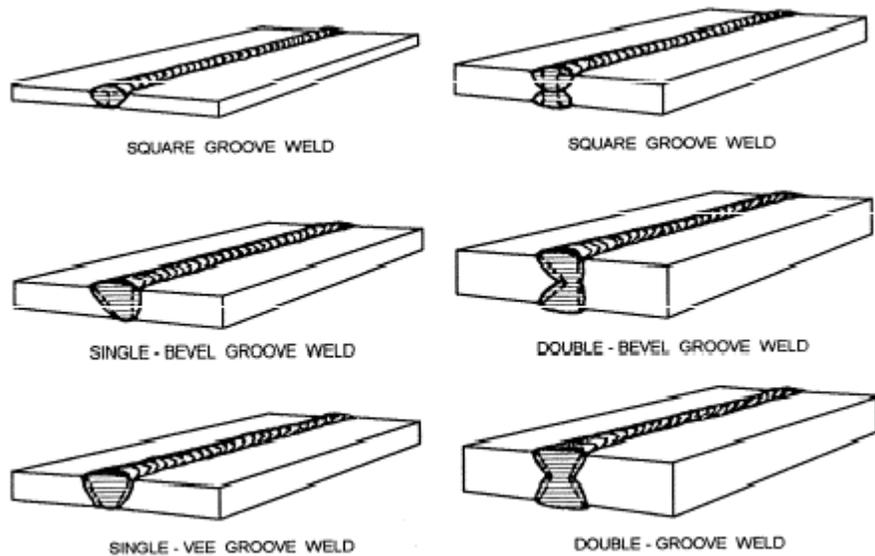
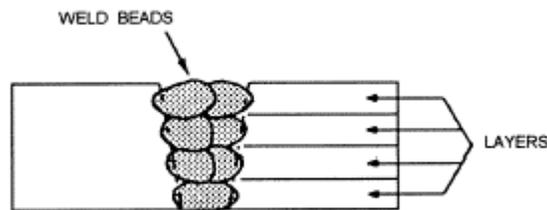

Figure 3-13. Standard groove welds.
Figure 3-14. Multiple-pass layers.
**Groove welds** are simply welds made in the groove between two members to be joined. The weld is adapt-able to a variety of butt joints, as shown in figure 3-13. Groove welds may be joined with one or more weld beads, depending on the thickness of the metal. If two or more beads are deposited in the groove, the weld is made with multiple-pass **layers**, as shown in figure 3-14. As a rule, a multiple-pass layer is made with stringer beads in manual operations. As a steelworker, you will use groove welds frequently in your work